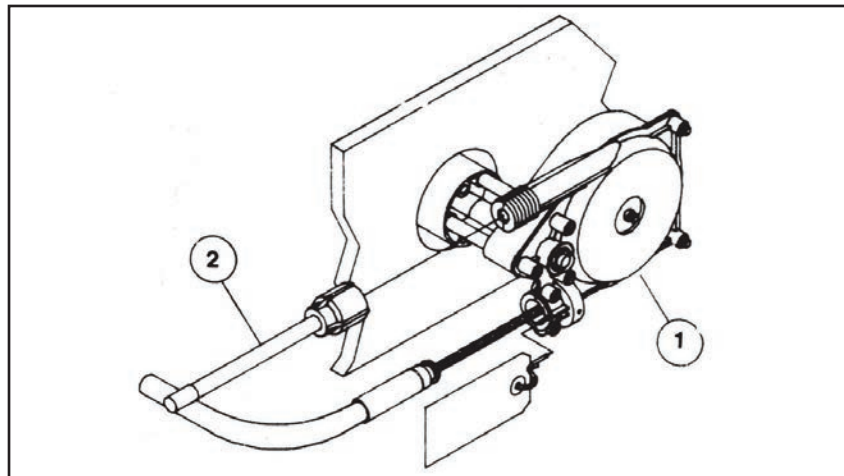

Figure 6.
STEP 2. Feed the cable into the *Lower* helm spigot until it contacts the internal gear. Then turn steering wheel to draw the cable fully into the helm (see Figure 6). Continue turning the steering wheel until the end fitting of the cable is entered into the entry spigot and the steering wheel cannot be turned further. During this you may hear a click as the locking mechanism engages. Turn the steering wheel fully in the other direction until it cannot be turned any further. Check that the cable end fitting is retained inside the entry spigot.